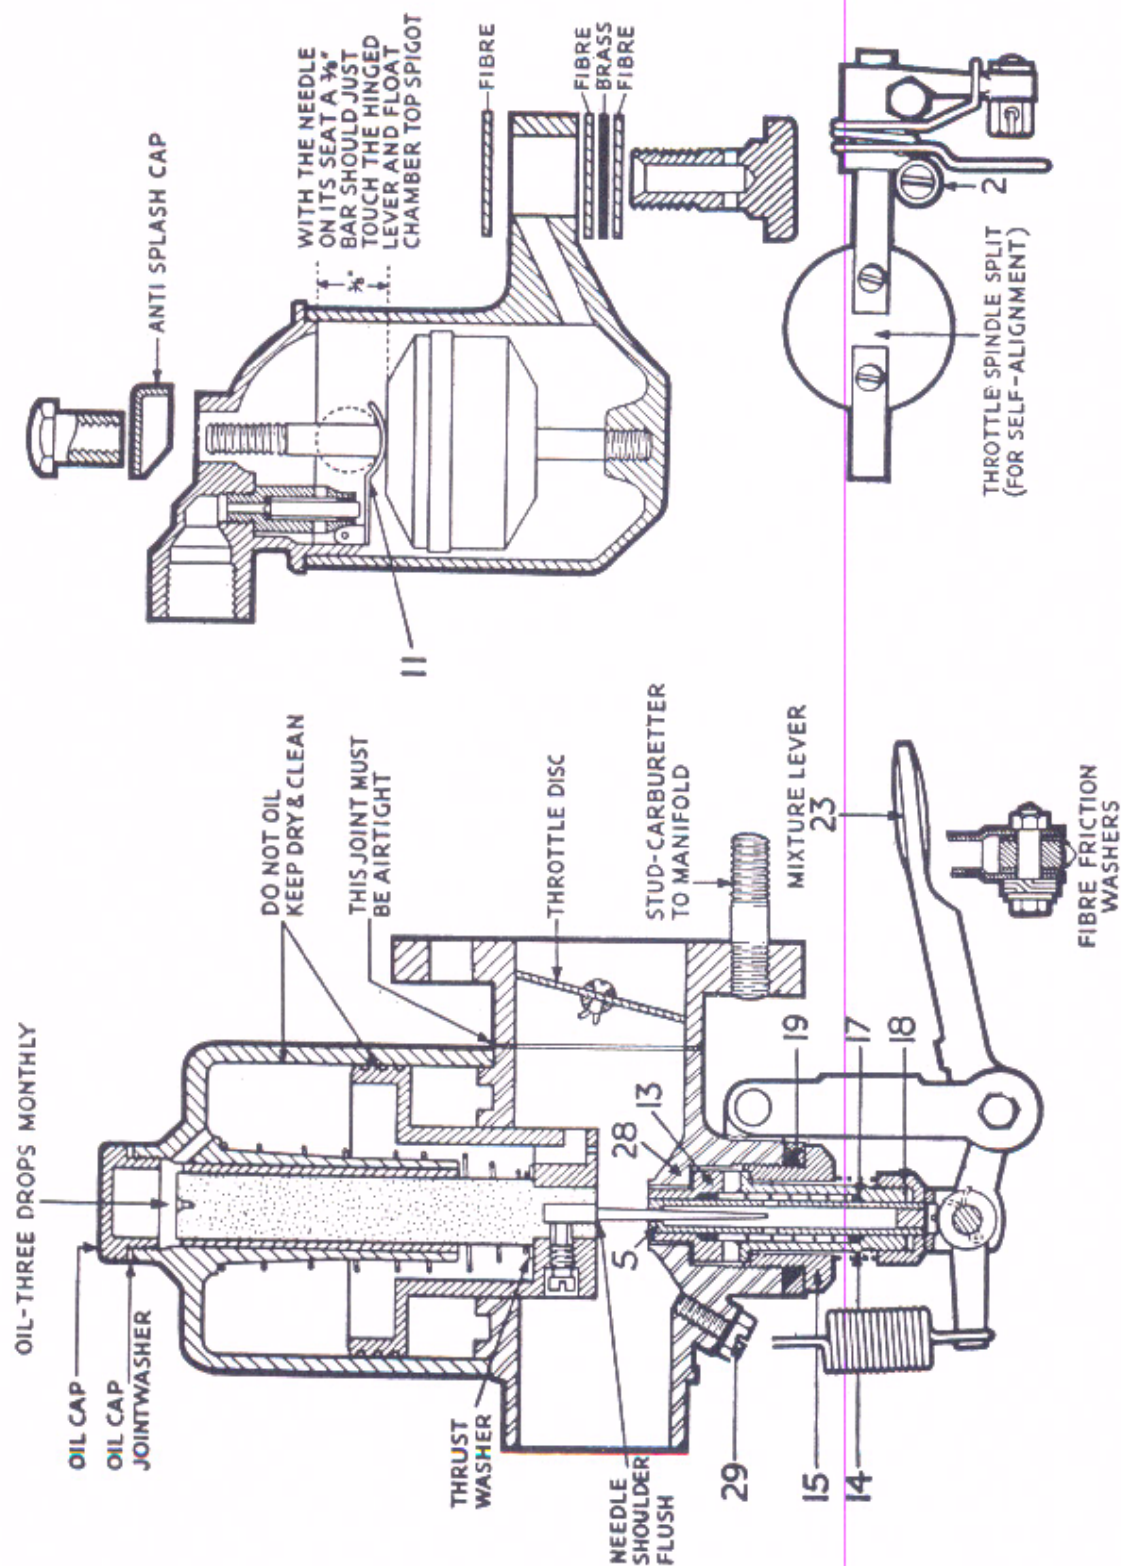

Fig. 51. S.U. CARBURETTER (DIAGRAM).
**All references to numbers in the script apply to Fig. 51 only.*